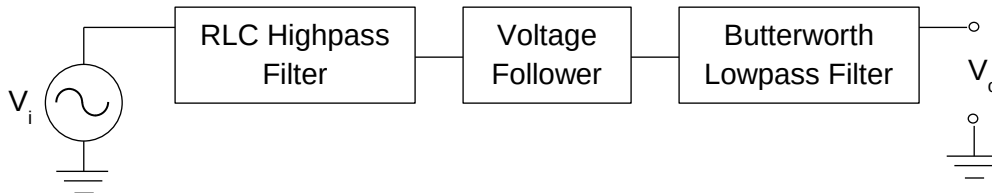

Figure 3. Wide-band bandpass filter.
1. Hook the output of your RLC highpass filter from Part I to the input of a voltage follower circuit as shown in Figure 3 below. The voltage follower should be constructed with the OP-27 op-amp. The voltage follower circuit can be found in the last section of Module 3.3 used in Lab3, which is available on the course website. All op-amps should use +12V and -12V power.
1. Block diagram of circuit (similar to Fig. 3). (1 pts)